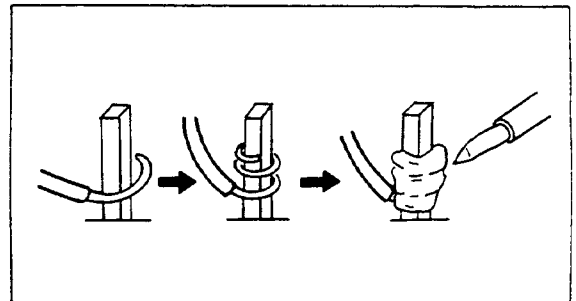

Fig. 1
5. When replacing AC primary side components (transformers, power cords, noise blocking capacitors, etc.) wrap ends of wires securely about the terminals before soldering. (Fig. 1)